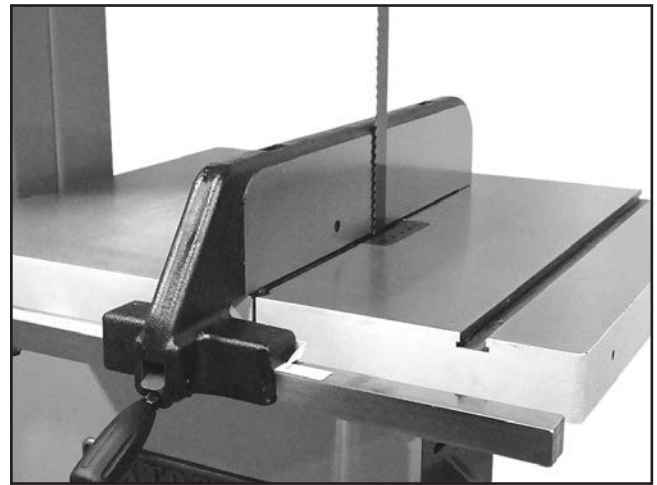

Figure 30. Fence flush with blade.
6. Place the fence flush against the bandsaw blade (see **Figure 30**).